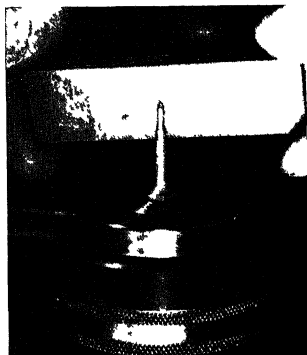

Figure 10-15.—Shaping a worn pivot point.
5. If the pivot point is worn, put it in a lathe and reshape it with a fine carborundum stone (fig. 10-15). Then polish the pivot point with a hard Arkansas oilstone, and inspect it again for correct shape. The tip of the pivot should have a radius of 0.005 inch.